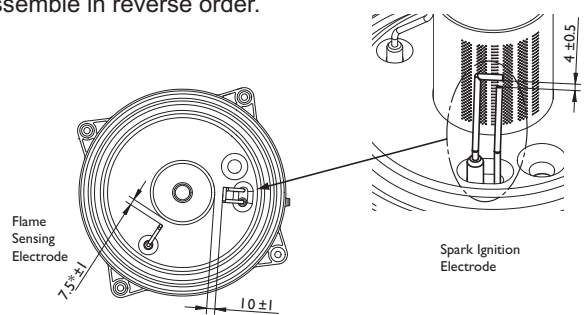

Fig. 45
10. Inspect the burner, electrodes position (Fig. 45) and insulation, cleaning or replacing if necessary. Clean any dirt or dust from the boiler.